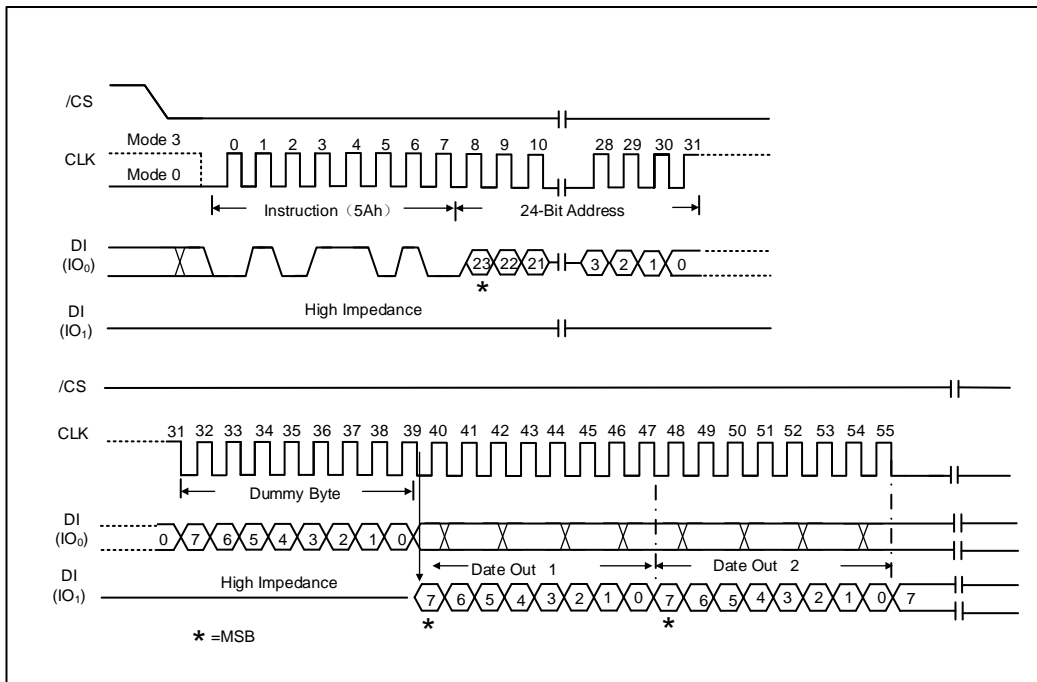

Figure 48. Read SFDP Register Instruction Sequence Diagram (Only SPI Mode)
The Read SFDP instruction is initiated by driving the /CS pin low and shifting the instruction code “5Ah” followed by a 24-bit address (A23-A0)(1) into the DI pin. Eight “dummy” clocks are also required before the SFDP register contents are shifted out on the falling edge of the 40th CLK with most significant bit (MSB) first as shown in Figure 48. The byte address is automatically incremented to the next byte address after each byte of data is shifted out. The last byte address of the register is FFh (the data will always be FFh when read after the last address), For SFDP register values and descriptions, please refer to please refer to the following SFDP Definition Table.